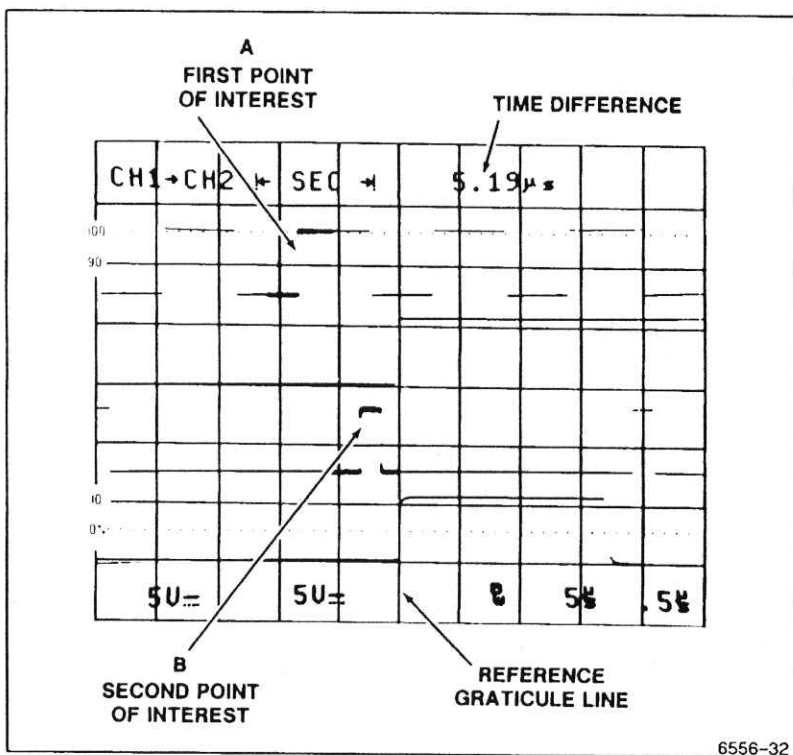

Figure 5-6. Time difference between the two delays.
7. Set the ← OR DELAY control so that the reference-delay intensified zone is positioned at the first point of interest (point A, Figure 5-6) and the B sweep display of that point is at the center vertical graticule line.
8. Set the → Δ control so that the delta-delay intensified zone is positioned at the second point of interest (point B, Figure 5-6) and the B sweep display of that point is at the center graticule line. The time difference between the two points of interest is displayed at the top of the screen.